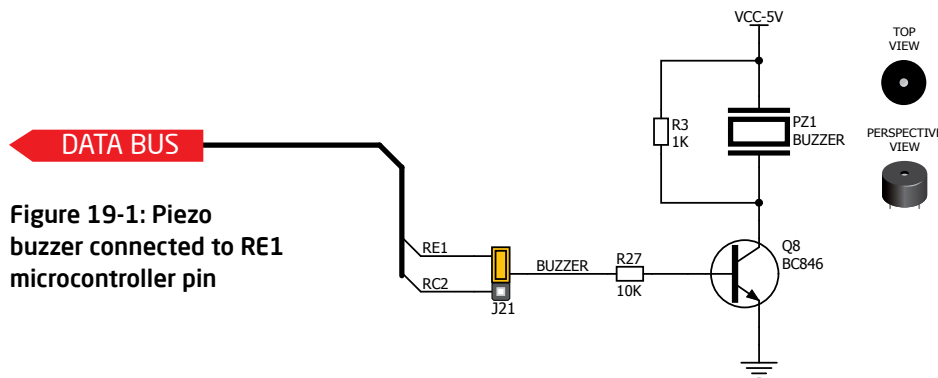

Figure 19-1: Piezo buzzer connected to RE1 microcontroller pin
**Piezo electricity** is the charge which accumulates in certain solid materials in response to mechanical pressure, but also providing the charge to the piezoelectric material causes it to physically deform. One of the most widely used applications of piezo electricity is the production of sound generators, called piezo buzzers. **Piezo buzzer** is an electric component that comes in different shapes and sizes, which can be used to create sound waves when provided with analog electrical signal. EasyPIC™ v7 comes with piezo buzzer which can be connected either to **RC2** or **RE1** microcontroller pins, which is determined by the position of **J21** jumper. Buzzer is driven by transistor **Q8** (Figure 19-1). Microcontrollers can create sound by generating a PWM (Pulse Width Modulated) signal - a **square wave** signal, which is nothing more